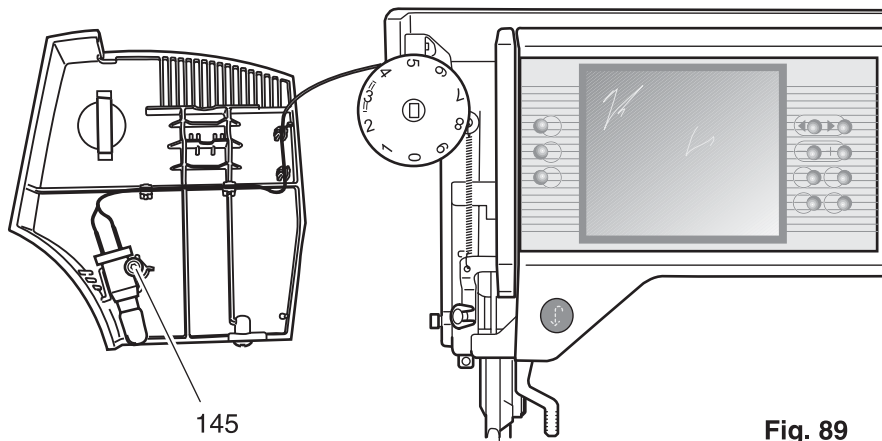

Fig. 89
- Carefully set down the top cover to one side, complete with sewing light and lead (fig. 89).